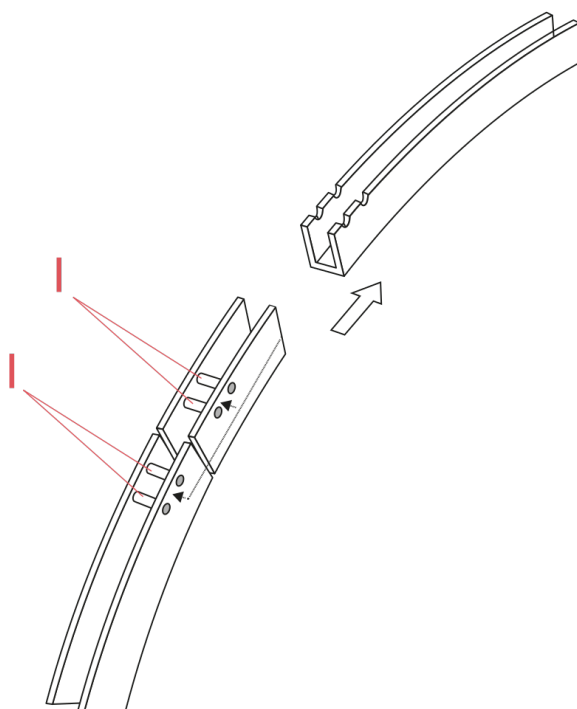

Fig.3
After having positioned carefully the electric cable (T) on the bottom channel, connect the connector (N) to connector (O) of the cable coming from the stem (B). (Fig.3 page 5)